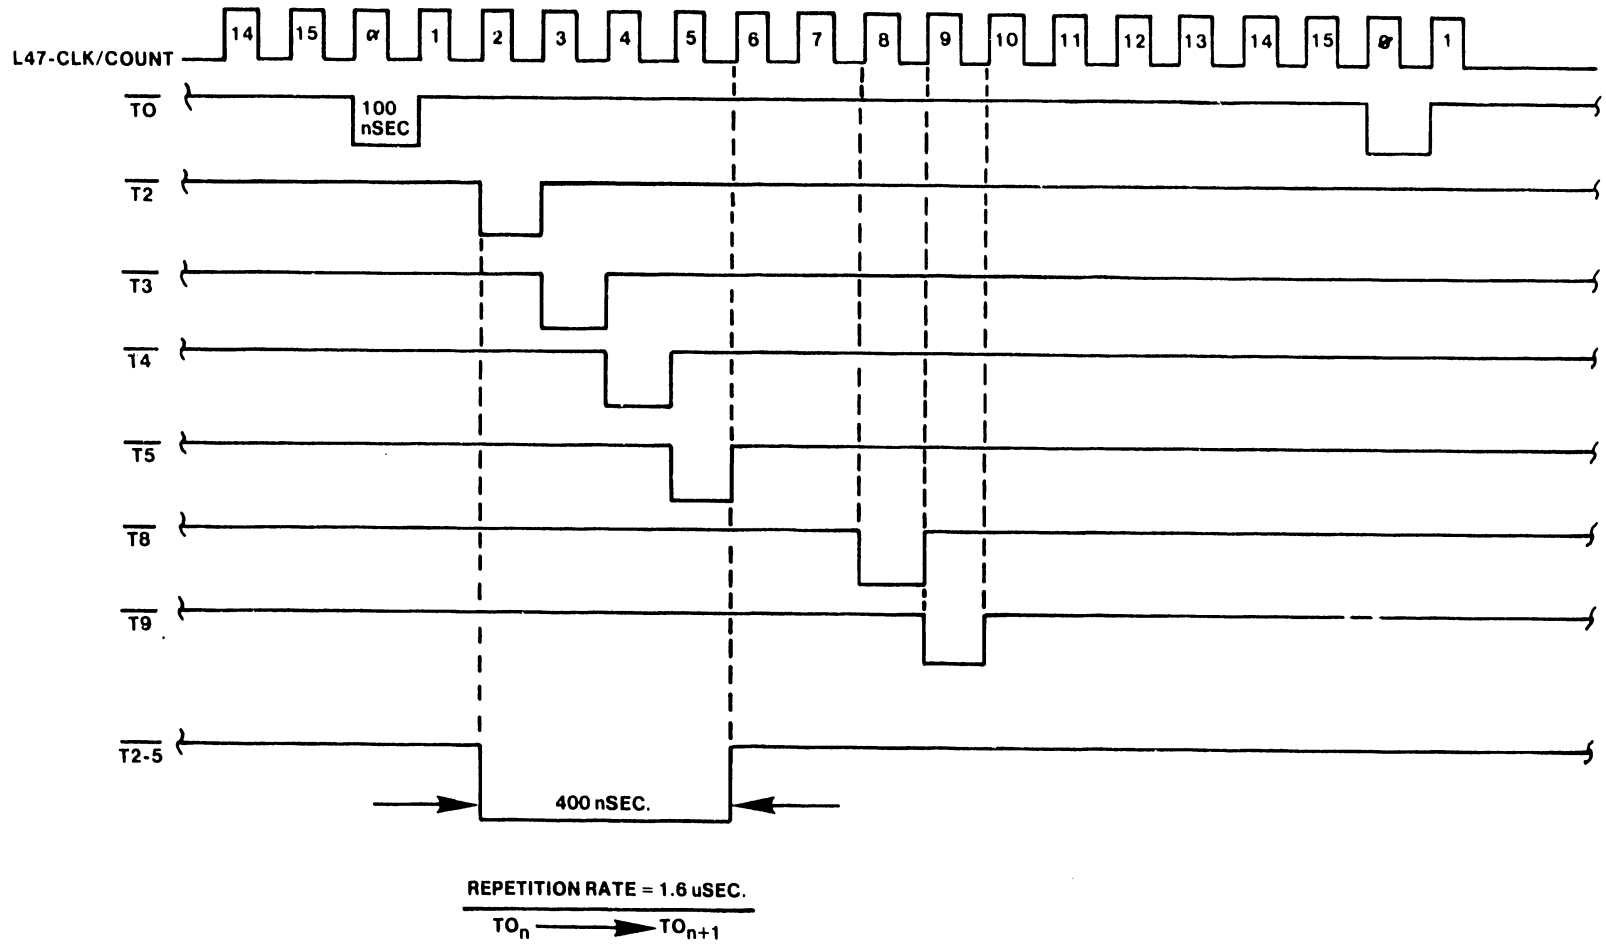

Figure 5-2. Timing Chart
5.1.1.1 Clock (see timing chart, figure 5-2) -- The clock circuit produces 16 clock cycles, each 100 nsec in duration. This results in a machine-cycle speed of 1.6 usec (1600 nsec). The clock cycles are applied to a bcd-to-decimal (4-to-10) decoder which generates 8 clock pulses that are used in the DPU. These clock pulses and the events that occur at that specific time are listed below.
5.1.2 WL No. 210-7421-A ALU/MUX Interface Board (see figure 5-2)